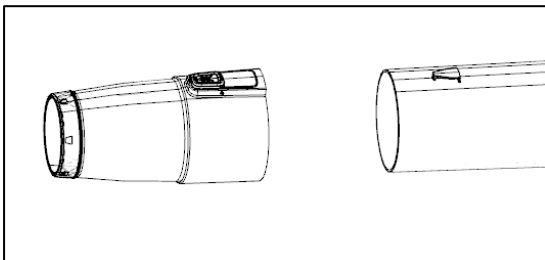
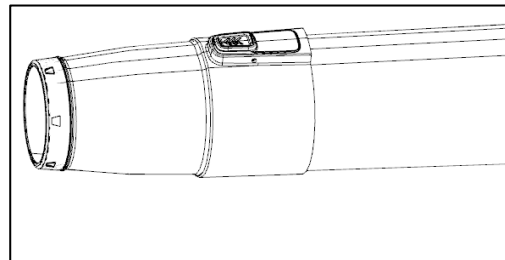

Fig 4
Fig 5
2. Align the nozzle with the lug on the blower tube (Fig 4). Push the nozzle onto the blower tube until the latch snaps into place(Fig 5).